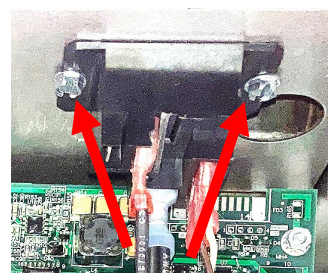

Figure 19
18. Remove the two (2) screws attaching the relay to the top of the component box (see Figure 19).